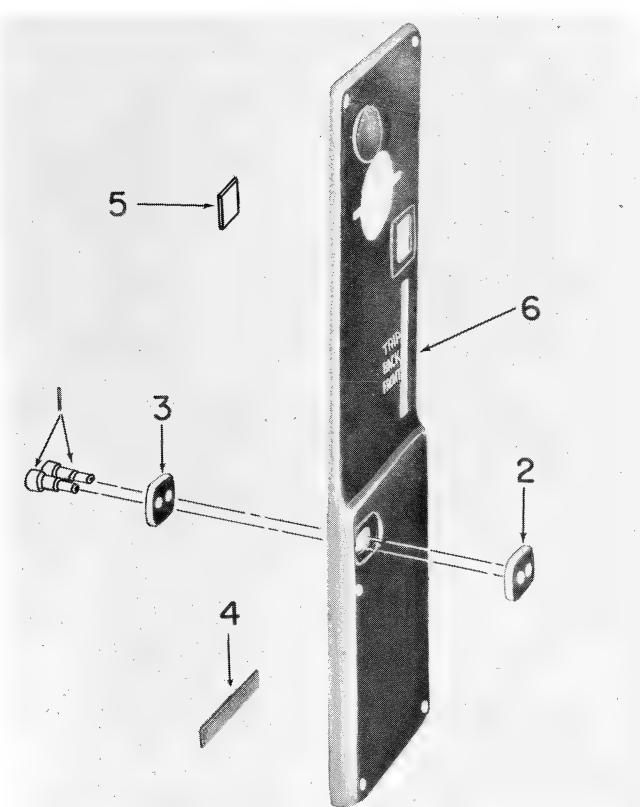
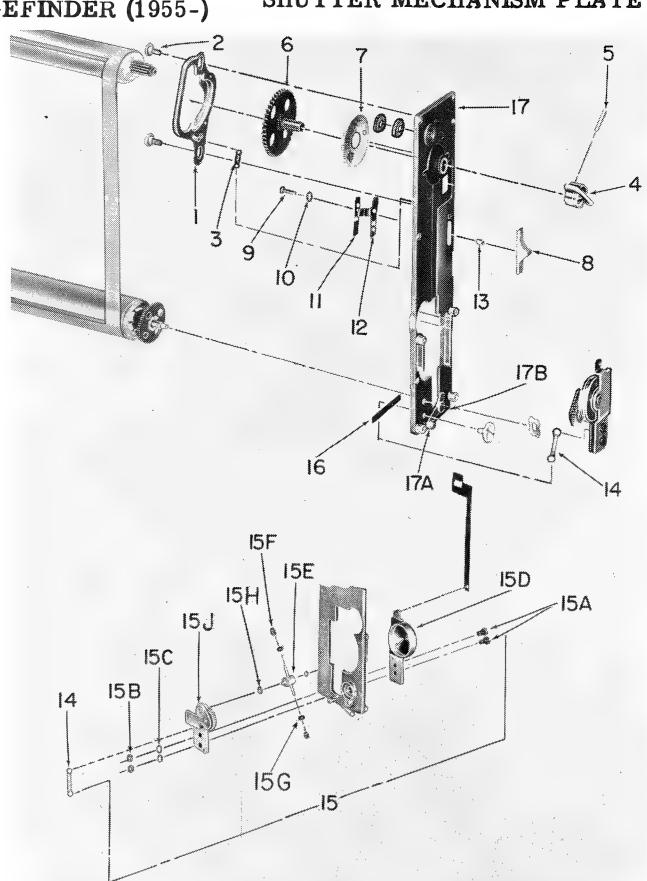

Figure 17. Cover Shutter Plate
Figure 18. Shutter Plate
2. Remove stud (1, figure 17), insulator (2), and washer (3), if necessary.
1. Remove the slide dial (8, figure 3) from the governor stud. Remove the shaft retainer screw (6) and slowly unwind the tension shaft retainer (7). Swing the retard cam lever assembly (17A, figure 18) forward to raise the governor. Remove four wood screws (9, figure 3) and lift the shutter mechanism plate assembly (5) from the camera.
2. The shutter plate (figure 18) is disassembled in four stages; disassemble the portion necessary.
1. Shutter Plate Cover. Examine the shutter plate cover (2, figure 3) for dents that will obstruct the working of the dial slide (8) or governor assembly. Using a stiff brush, brush the fabric dust seal (4, figure 17) to remove dust and grit that may have collected.
2. Shutter Mechanism Plate Assembly. Clean all parts of the shutter plate (figure 18) with solvent, trichlorethylene (AN-T-37a). Dry all parts thoroughly before reassembly. Check the spring (3 and 14); replace if stretched or deformed. Inspect the gears for worn teeth and loose stop pins.
4. Contacts. Check the height of the receptacle contact (13, figure 21) and the receptacle jumper (21). Both of these must be arched above the wood surface at least 3/16 inch so that they will make positive contact with the receptacle contact studs (1, figure 17). Check the curvature of the spring finger contact (17, figure 3); these contacts should be arched evenly not more than 5/32 inch above the block. If the short and long switch contacts (17 and 19, figure 21) are causing an electrical short, remove the body release plate assembly (11), paragraph VI.A. and replace the contacts.
3. Shutter Mechanism Plate Reassembly (figure 18). If the governor complete (15), has been dismantled, lubricate by wiping the outside ends of the governor shoes (15F) and governor pinion assembly (15E) with graphite powder, AN-G-24. The governor shoes must slide freely on the cross shaft of the pinion assembly. Reassemble the governor as follows:
a) Position the bottom bracket assembly (15J) on the lower cut-out of the plate assembly (17).
d) Hook the governor spring (14) to the bottom bracket assembly (15J) and to the lower stud on the plate assembly (17).
c) Rotate the winding key until "0" appears squarely in the upper half of the speed shutter dial window (5, figure 17) when the upper master gear pin is stopped against the top step of the escapement (1) figure 18).
d) With the bottom strut of the curtain  $1/4$  inch from the upper, inside edge of the frame, position the shutter mechanism plate assembly (5, figure 3) over the pinion ends of the curtain rollers (10). The escapement actuating lever of the concealed body release plate must contact the bottom stud of the escapement assembly (1, figure 18) and the shutter selector shift slide and the shutter selector lever of the concealed body release (located near the middle) must contact the bottom shift plate slide (12). The gear of the top roller meshes with the master gear assembly (6).
e) Swing the retard cam lever assembly (17A) forward to raise the governor complete (15). Drop the bearing shaft of the tension roller in the lower bearing hole of the plate (17). At the forward edge of the plate is a narrow cut-out which fits with a raised lip of the concealed body release plate.